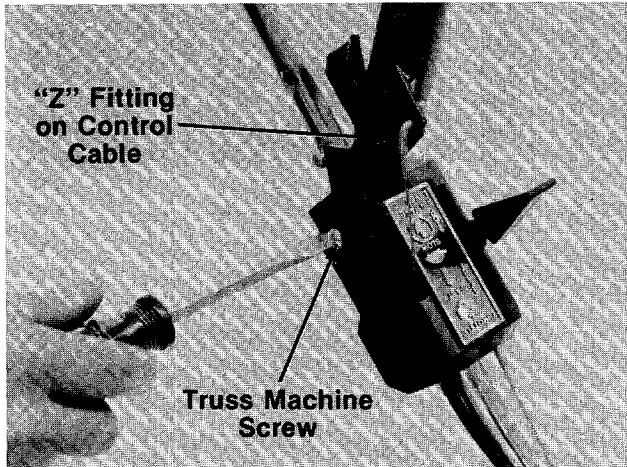

FIGURE 25.
4. Remove one truss machine screw on the inside of control housing as shown in figure 25. Loosen the truss machine screw on the outside of the control housing until the control housing halves can be separated enough for the control cable to be freed.
5. Disconnect the "Z" fitting on the blade brake/clutch cable from the clutch control handle. See figure 25. Slide the blade brake/clutch cable out of the control housing.